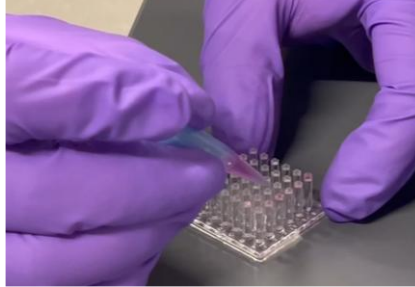

Figure 2. Loading Matrigel on the pillar plate using a 1 mL pipette tip with Matrigel.
12. Gently tap the 1 mL pipette tip with Matrigel in the center of the pillar to load Matrigel while blocking the large open area of the tip using the index finger (Fig. 2).